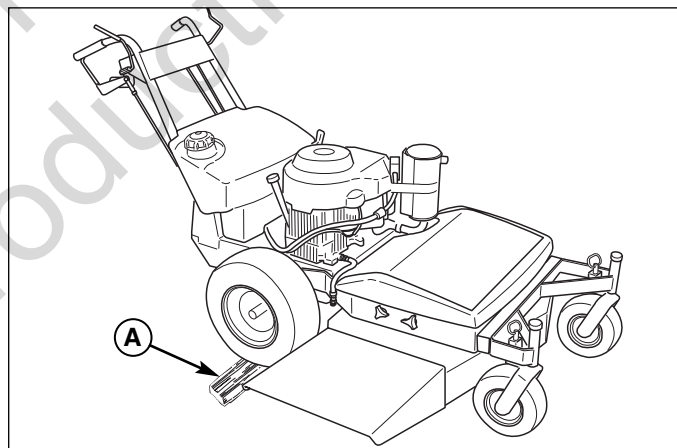

Figure 4. Raise Rear of Machine
2. Park machine and place the rear tires in a 2 x 4 block of wood or park machine on a slight downhill grade (see Figure 4).